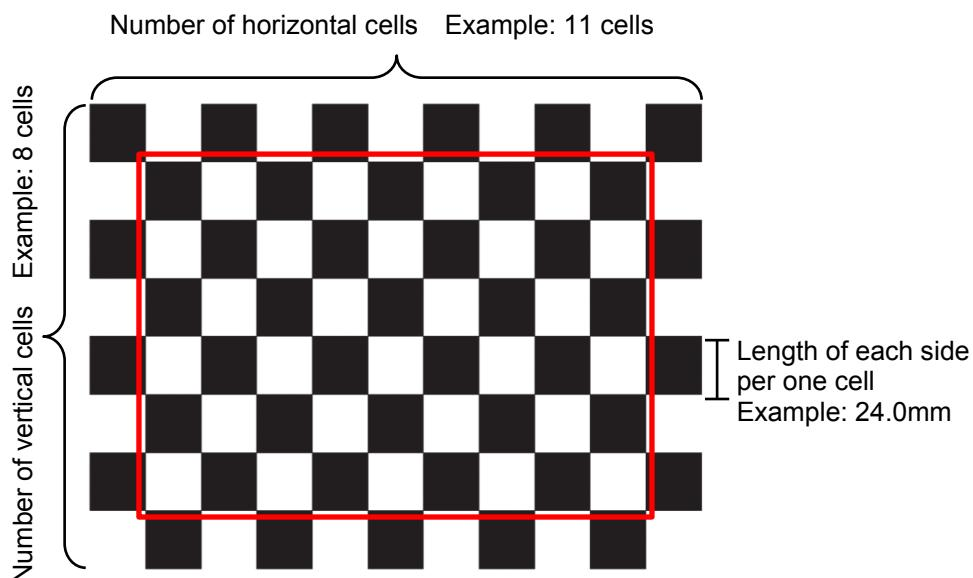

Fig. 7-52 Instructions for the parameters during setting of the checkerboard
- Set up the checkerboard in such a way that the target subject within the red frame of Fig. 7-52 is included within the photographic image.